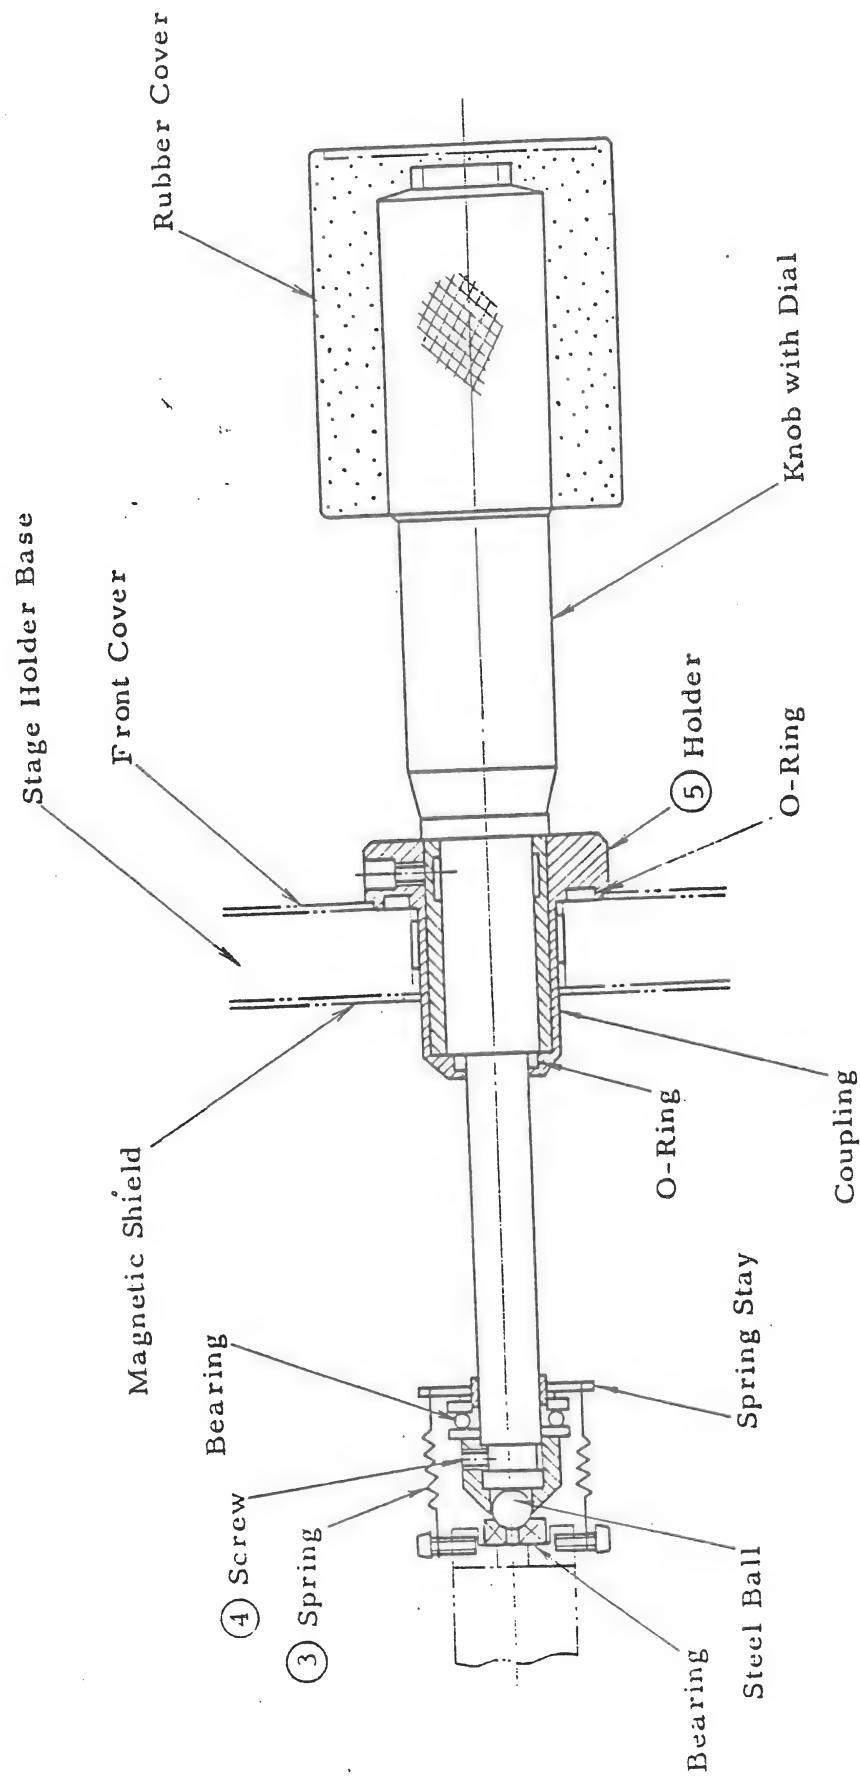

Fig. 4-14 Construction of X, Y Knobs and Drive Assembly
- (a) Each knob assembly (Figs. 4-14 ~ 4-15)
- 3) Detach two springs ③ (Fig. 4-14) at the tips of X and Y knobs having the same shape.
Loosen three screws ④ (Fig. 4-14) to detach the component.
- 4) Loosen base ⑤ (Fig. 4-14) counterclockwise.